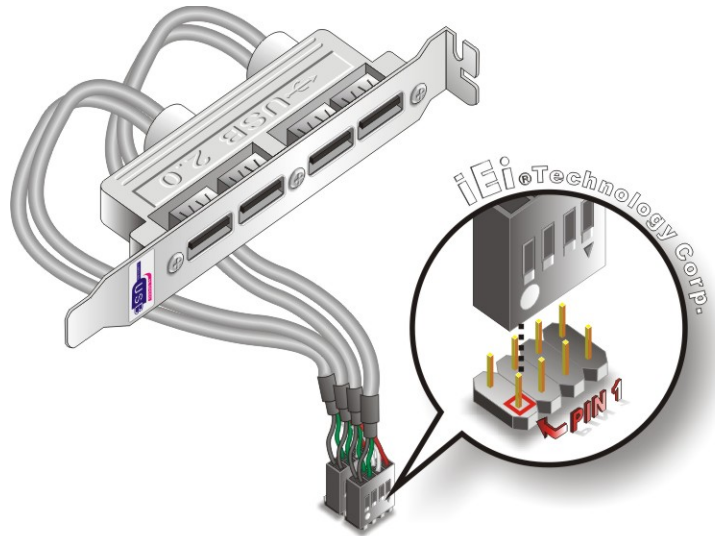

Figure 5-13: Four Port USB Cable Connection
Step 3: Insert the cable connectors. Once the cable connectors are properly aligned with the USB connectors on the KINO-690S1, connect the cable connectors to the onboard connectors. See **Figure 5-13**.